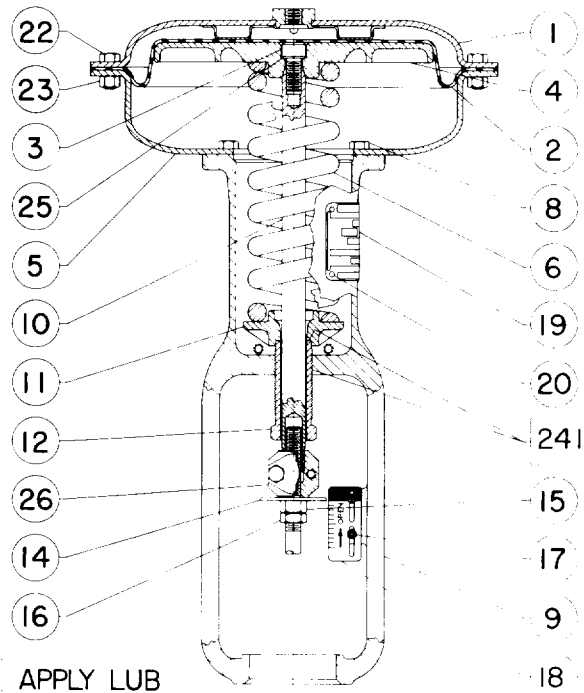

Figure 5. Type 657 Actuator Sizes 30 Through 60
1. Bypass the control valve. Reduce the loading pressure to atmospheric, and remove the tubing or piping from the diaphragm casing (key 1, figures 5, 6, or 7).
2. Turn the spring adjustor (key 12, figures 5, 6, or 7) counterclockwise to relieve all spring compression.
3. Remove the diaphragm casing cap screws (key 22, figures 5, 6, or 7), and lift off the upper diaphragm casing and handwheel assembly.
4. If necessary, the handwheel assembly can be separated from the diaphragm casing by removing the cap screws (key 141). This may be necessary to replace the O-ring (key 139) or for ease of handling.
5. Loosen the locknut (key 137), and turn the handwheel (key 51) clockwise. Remove hex nut (key 54) and washer (key 134), and lift off the handwheel.
6. Unscrew the locknut (key 137) from the handwheel stem (key 133), and turn the stem out of the bottom of the body (key 142). A screwdriver slot in the top of the stem is provided for this purpose.
7. Replace the O-ring (key 138) in the body (key 142).
2. Coat the O-ring (key 138) with Lubriplate MAG-1 or equivalent lubricant, and insert the O-ring in the body (key 142).
3. Coat the threads of the stem (key 133) with Lubriplate MAG-1 or equivalent lubricant. Screw the stem into the body (key 142).
4. Thread the locknut (key 137) onto the stem (key 133).
5. Place the handwheel (key 51), the washer (key 134), and hex nut (key 54) on the stem. Tighten the hex nut to fasten the parts together.
6. If the body (key 142) was separated from the diaphragm casing (key 1, figures 5, 6, and 7), lubricate the O-ring (key 139) with Lubriplate MAG-1 or equivalent lubricant, place the O-ring in the body, align the holes in the diaphragm casing and the body, insert the cap screws (key 141), and tighten them evenly following a crisscross pattern to ensure a proper seal.